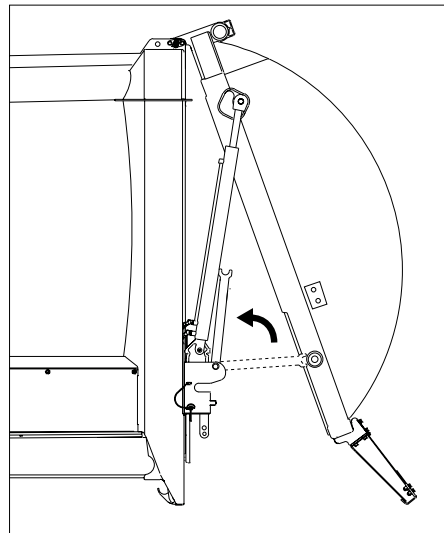

Figure 9. Raising the tailgate safety prop upward
3. Raise the tailgate safety prop (see Figure 9. “Raising the tailgate safety prop upward”).